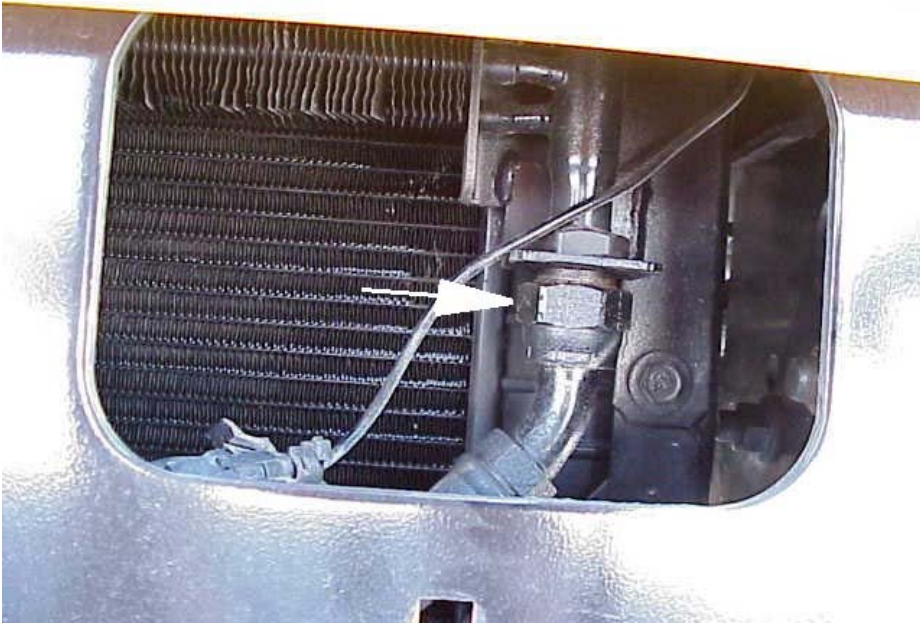

Figure 3 View Through Bumper Opening on Driver Side, Disconnect Flare Fitting (Arrow)
1. See Figure 3 for Enlarged View